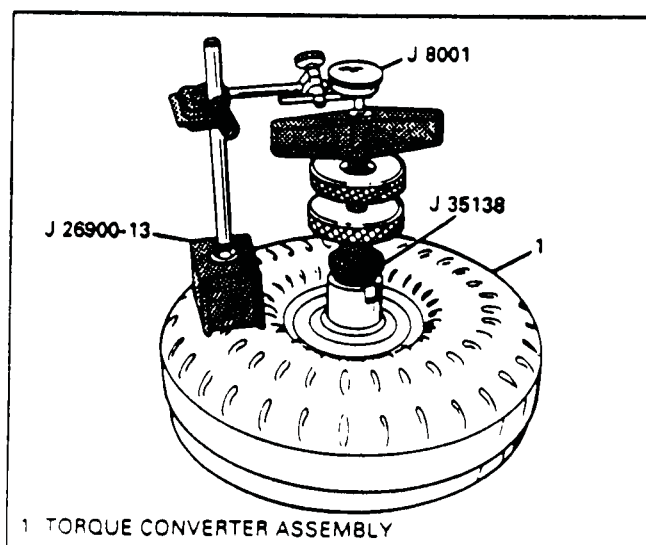

Figure 131
1. Install measuring device, as shown in Figure 131, and check for converter end play.